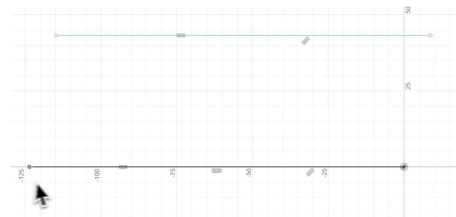

Figure 1.6
- **Equal:** Forces two lines (or shapes) to always be the same length/size. When you adjust one line, the other will adjust to match. (see Figure 1.6)